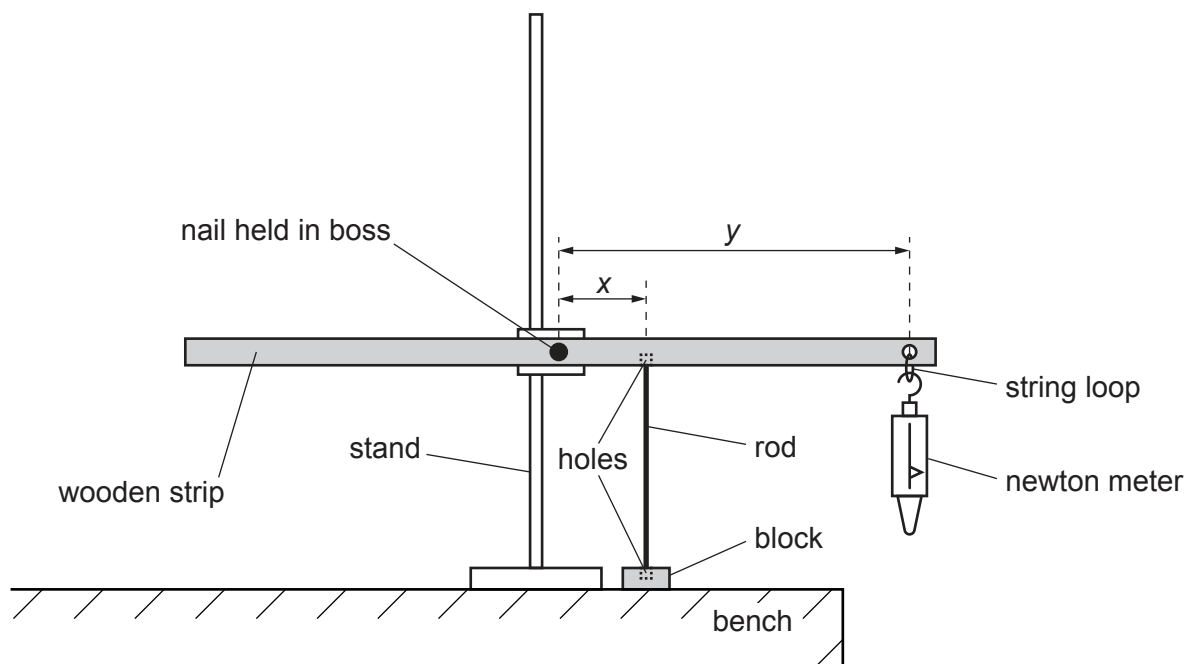

Fig. 2.1
(b) • Assemble the apparatus as shown in Fig. 2.1 using the longer rod.
- The distance between the nail and the top of the rod is  $x$  and the distance between the nail and the string loop is  $y$ , as shown in Fig. 2.1.
- Set up the apparatus as shown in Fig. 2.1 using the shorter rod.